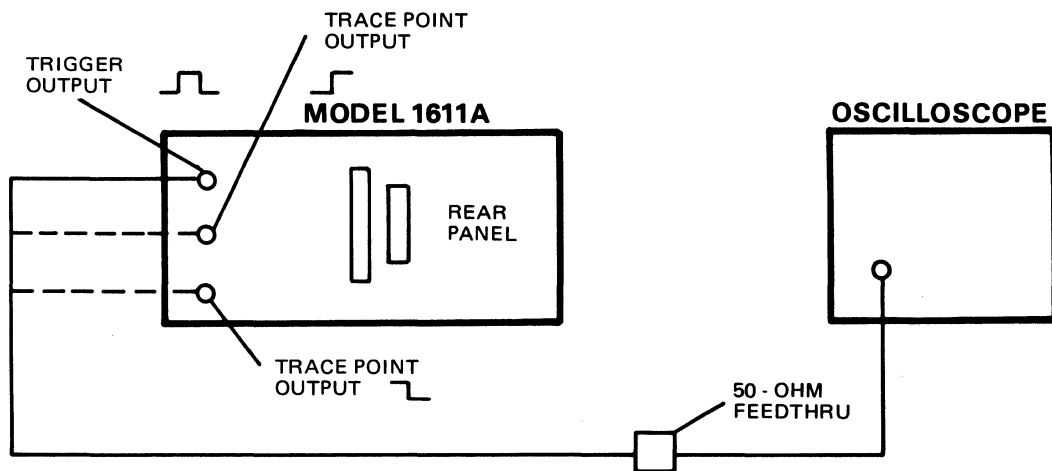

Figure 4-16. Rear-panel Outputs Test Setup
- b. Connect TRIGGER OUTPUT to oscilloscope as shown in figure 4-16.